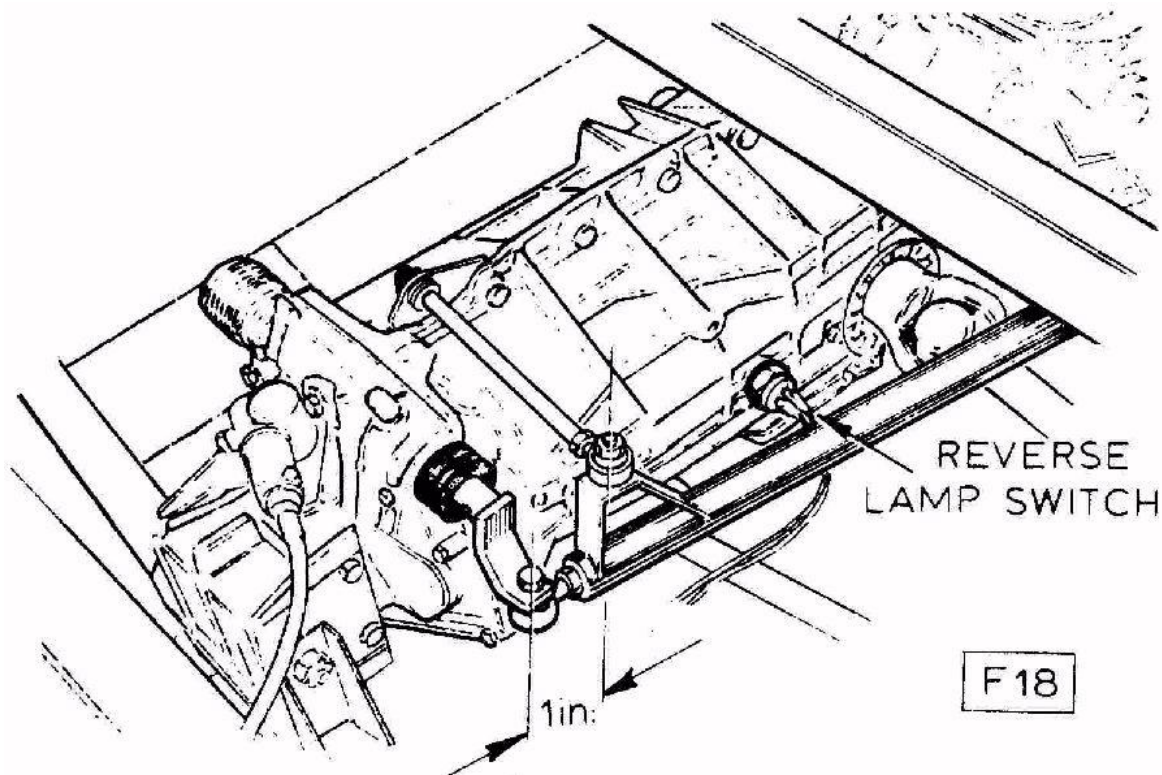

Fig. 111 Setting Dimensions of Rear Link
11. Attach the rear longitudinal link to the actuator and adjust ball joint to the dimension shown in Fig. 111. Attach location link (Part No. A065 F 0162) between rear longitudinal link and bracket on gearbox.